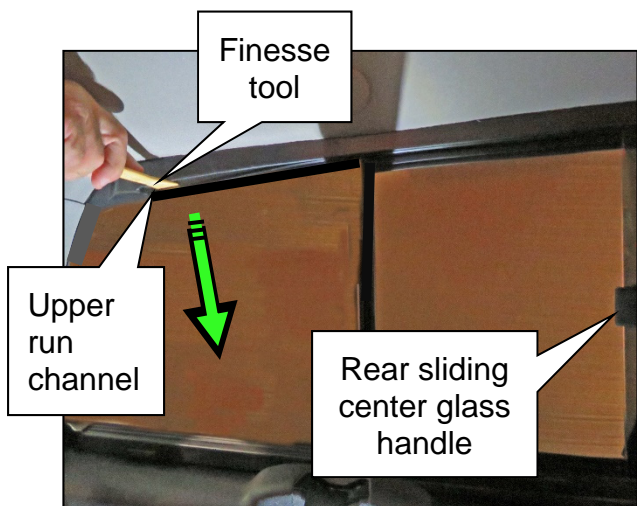

Figure 4
- a. Using a finesse tool or similar tool, pull down on the passenger (RH) side of the upper run channel (Figure 4).